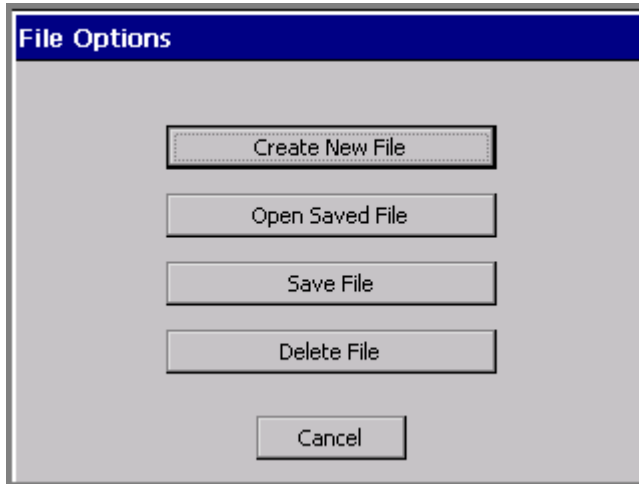
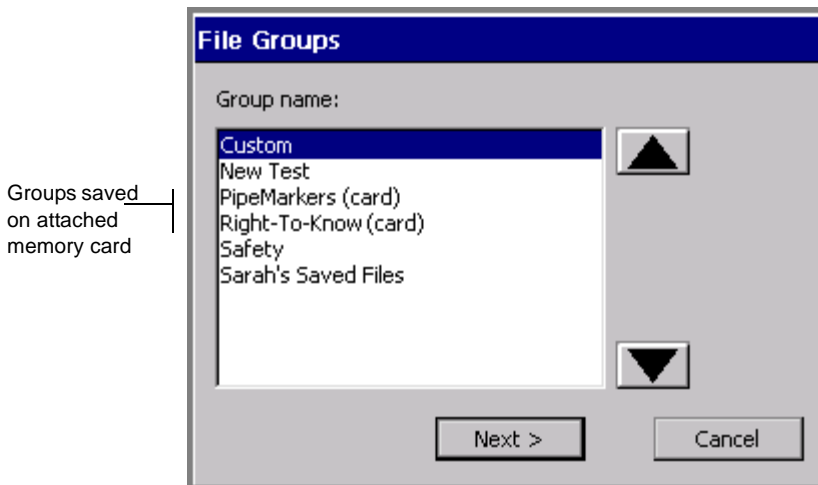

Figure 9-1. The File Options screen.
Figure 9-5. The File Groups screen with memory card.
1. With the unsaved label displayed in the **Editor** window, press **<File Options>**. You'll see the **File Options** screen (Figure 9-1).
1. While in the **Editor** window, press the **<File Options>** key. You'll see the **File Options** screen shown in Figure 9-1 on page 9-4.
3. After you deal with any unsaved labels, you'll see the **File Groups** screen, shown in Figure 9-5 on page 9-8.
2. On the **File Options** screen (shown in Figure 9-1 on page 9-4), choose **Delete File**. You'll see the **File Groups** screen (Figure 9-5 on page 9-8).